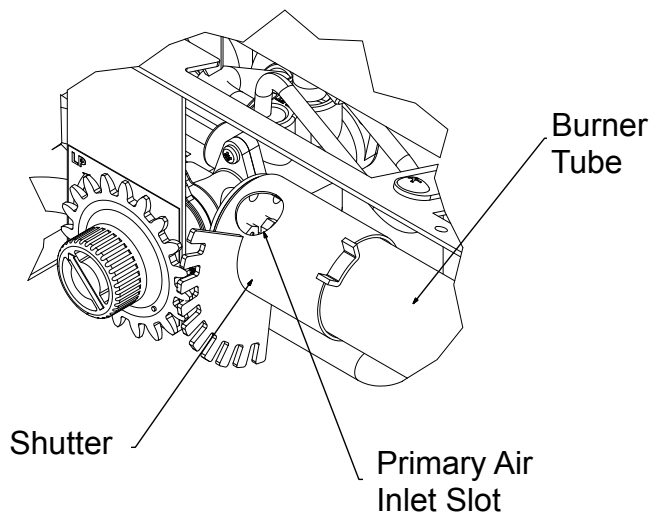

Fig. 24 - Primary Air Inlet Slot on Burner Tube
2. Inspect burner, pilot and primary air inlet holes on orifice holder for dust and dirt (See Fig. 24).